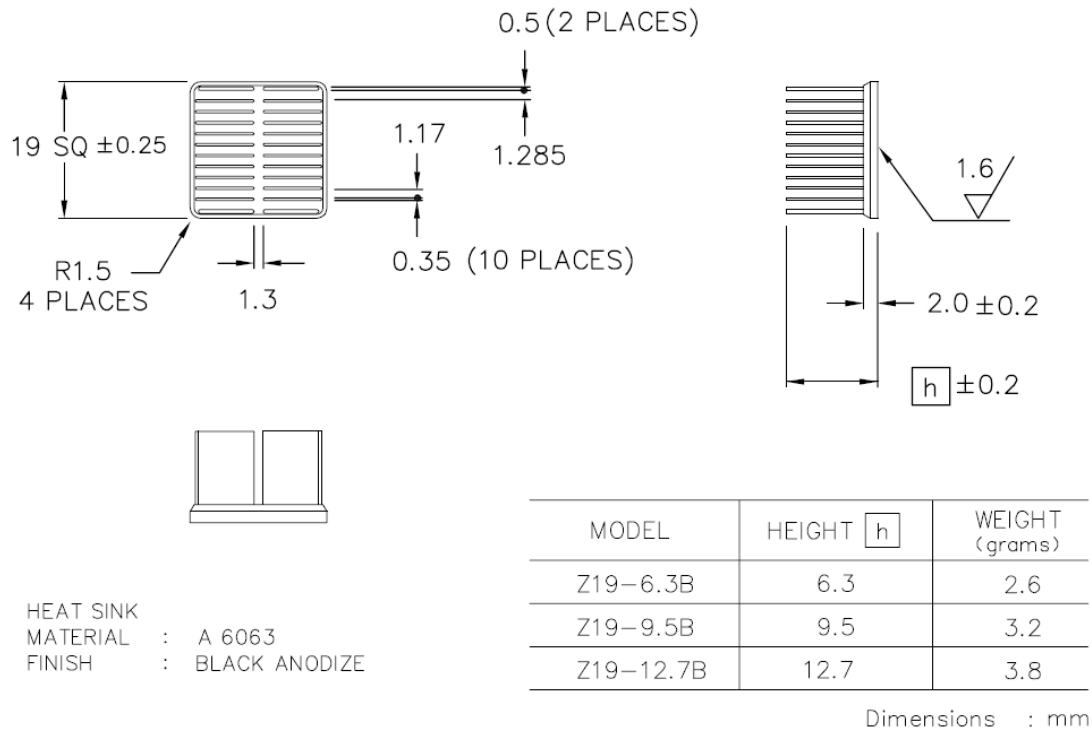
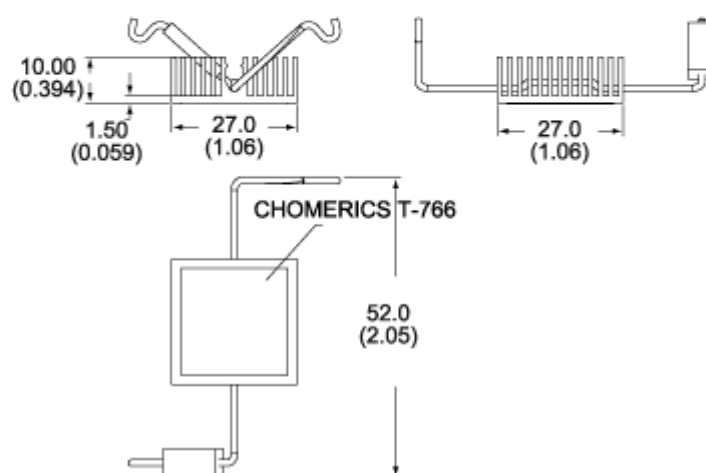

Figure 7.2. 6.3 mm Tall Passive Heat Sink (Alpha Novatech, Inc. PN: Z19-6.3B)
Figure 7.3. 10 mm Tall Passive Heat Sink (AAVID Thermalloy PN: 374324B60023G)
1. Max T_{case} is based on 27 x 27 x 10 mm Thermalloy heat sink as shown in Figure 7.3.
1. 101.5 mm x 114.5 mm, 2s2p JEDEC board using 19 x 19 x 6.3 mm Alpha Novatech* heat sink as shown in Figure 7.2.
2. 101.5 mm x 114.5 mm, 2s2p JEDEC board using 27 x 27 x 10 mm Thermalloy* heat sink as shown in Figure 7.3.
If required, the following extruded heat sinks are suggested for I347-AT4 thermal solutions. They can be seen as shown in Figure 7.2 and Figure 7.3 with their respective mechanical drawings.
- 19 mm x 19mm x 6.3 mm heat sink (Figure 7.2)
- 27 mm x 27 mm x 10 mm heat sink (Figure 7.3)
Note: 19 x 19 x 6.3 mm Alpha Novatech HS in Figure 7.2.
Note: 27 x 27 10 mmmm Thermalloy HS in Figure 7.3.